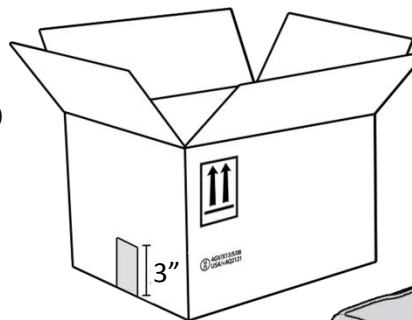

Figure 2
2. Seal center seam with three (3) strips of 48mm wide, 3M #305 clear packing tape (or equivalent). Extend tape beyond each edge by at least 3". (See Figure 2)